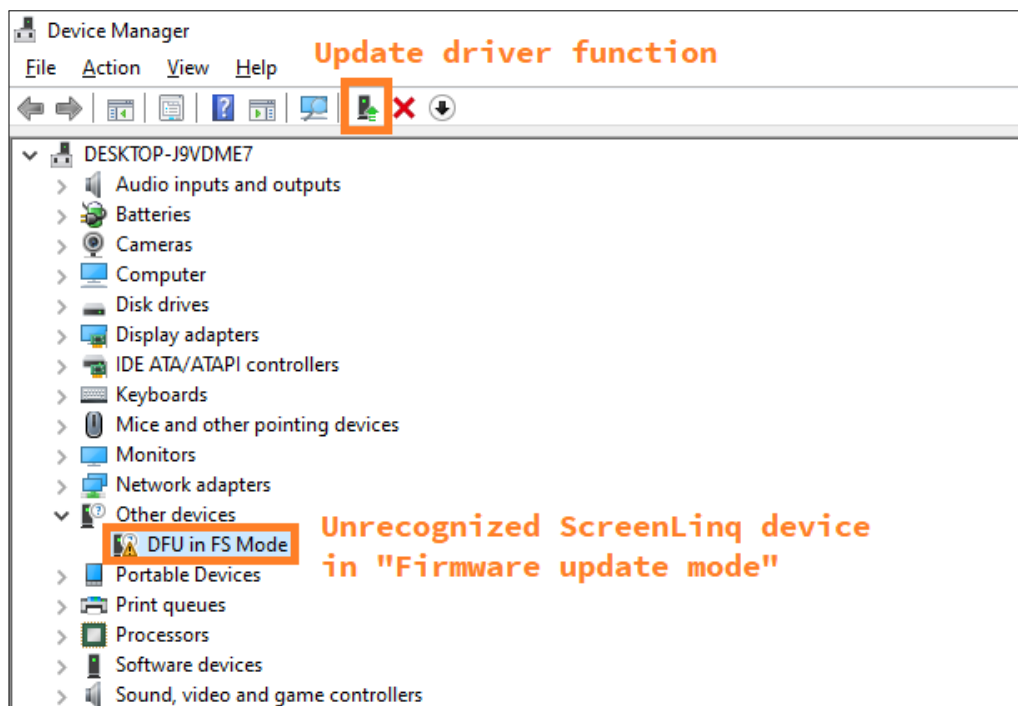

Figure 13: An unrecognized ScreenLinq device in Windows 10 Device Manager.
In the case of Microsoft Windows 10, a ScreenLinq device will appear in *Device Manager* as a device with a *Warning* symbol (see Fig. 13), indicating that such a device might not operate as desired.
- 2 Find a ScreenLinq device in *Device Manager* (see Fig. 13),